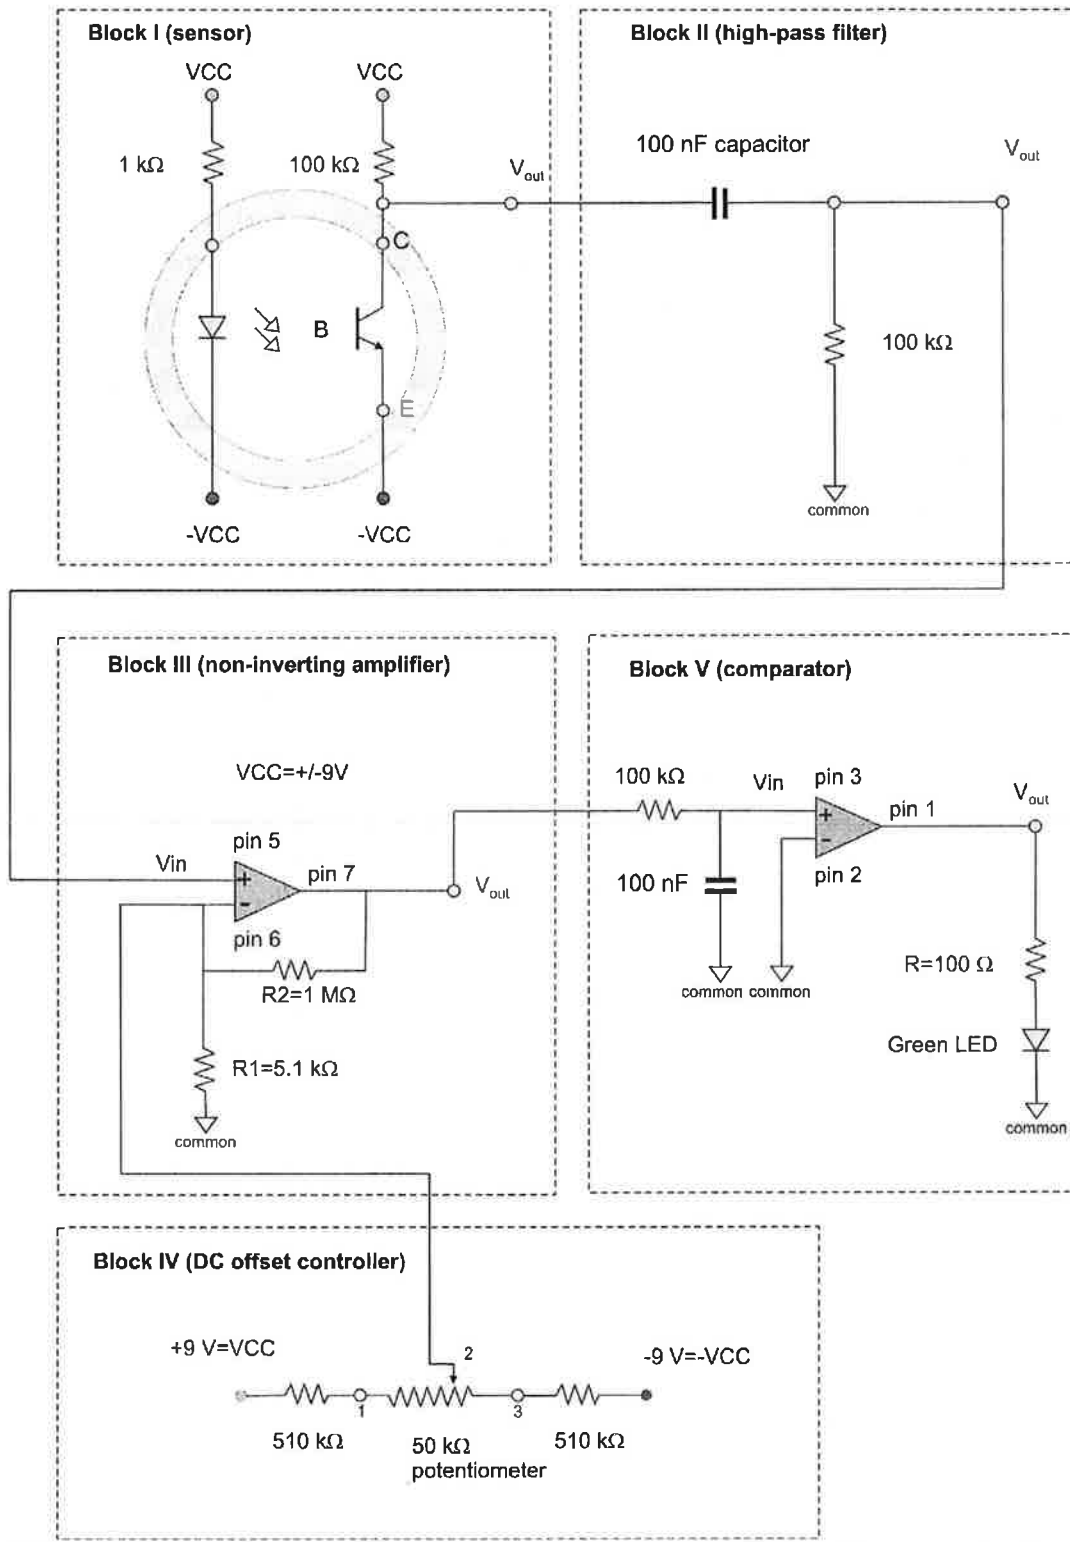

Fig. 7 Block V - the second amplifier stage - the comparator. The sensor circuit is complete.
Disassemble the circuit from Part I, but leave the power supply connections unchanged. The final circuit design is given in Fig. 7 that follows. Looking at the board and at Fig. 7 estimate the space necessary for different blocks - five blocks total. Think about the amplifier placement. The output to the sensor - the green LED - should be possibly located further away from the sensor - the infrared emitter-to-collector pair within a PVC tube.
The complete circuit is shown in Fig. 7 that follows. It includes a new amplifier stage - the *comparator amplifier*. This amplifier does not have a feedback loop. The comparator amplifier is a convenient tool for creating rectangular pulses at the output. It may only be in two states: on or off. When the input voltage to its plus terminal is negative, the output is close to the negative rail of the power supply. When it is positive, no matter how small or large it is, the amplifier's output approaches the upper rail voltage.
The RC block in front of the comparator (on the left side of Block V) in Fig. 7 is the so called *low-pass filter* to be studied in class. This filter is optional but quite useful: it removes high-frequency components (spikes) from the signal prior to comparator. Without this filter, the comparator might respond to a high-frequency noise at a frequency that is much higher than the heart rate.
Please add Block V shown in Fig. 7. Turn the power supply on. With the finger in the PVC tube, the LED should blink precisely in tact with your heart rate. If this is not the case, try to hold the finger in the same position and slightly adjust the potentiometer.
2. Why do we need the high-pass filter in the heart-rate sensor circuit from Fig. 7. Do you think the circuit without the filter will still function? *Hint:* short out the filter and observe the circuit operation.
3. What is the gain of the first amplifier stage (Block III) in Fig. 7?
4. What is the gain of the second amplifier stage (Block V) in Fig. 7?